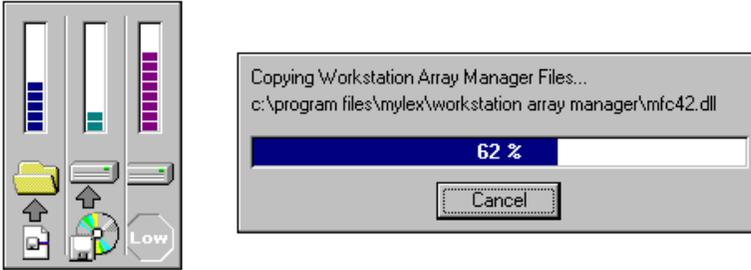

Figure 2-16. Installation Progress Display
3. During installation, files are decompressed and copied from the installation CD-ROM to the destination folder (Figure 2-16).